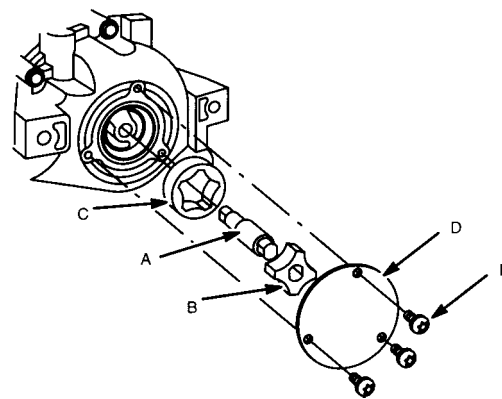

Fig. 7 - Assemble Oil Pump
3. Lubricate oil pump components with engine oil and assemble to sump, Fig. 7. Make sure drive shaft is engaged in camshaft.